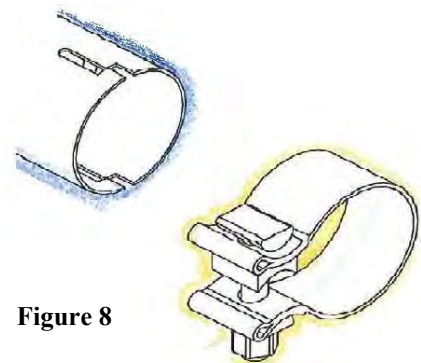

Figure 8
6. Check your exhaust system for proper clearance under the vehicle and also for tip alignment. Starting at front flanges and moving to rear of vehicle, tighten flange hardware bolts. Orient position of bolt (on supplied clamps) between (not over) pipe notches and tighten to 35 ft. lbs. torque. (See Fig.8)